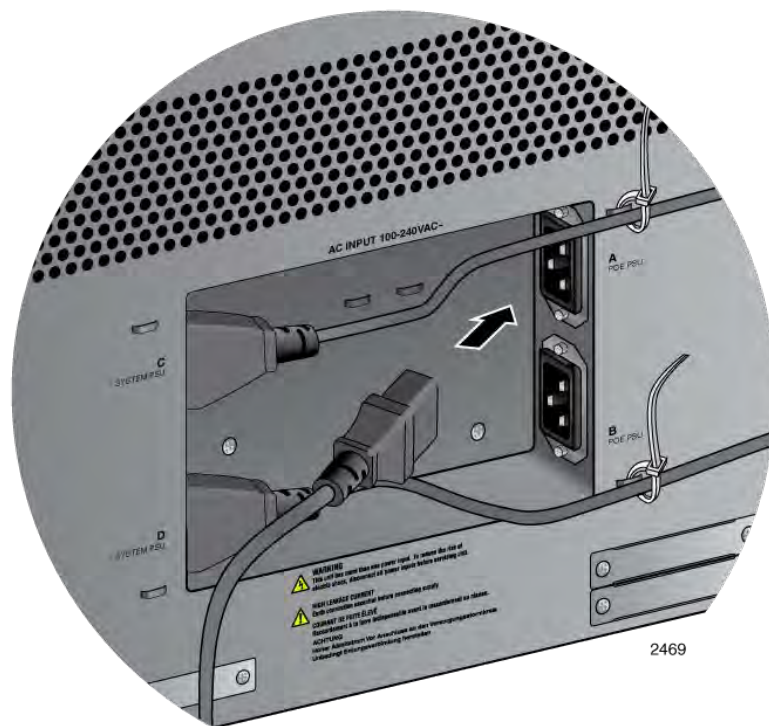

Figure 121. Connecting the AC Power Cord for the AT-SBxPWRPOE1 Power Supply
2. Plug the AC power cord that comes with the power supply into one of the plugs, as shown in Figure 121.